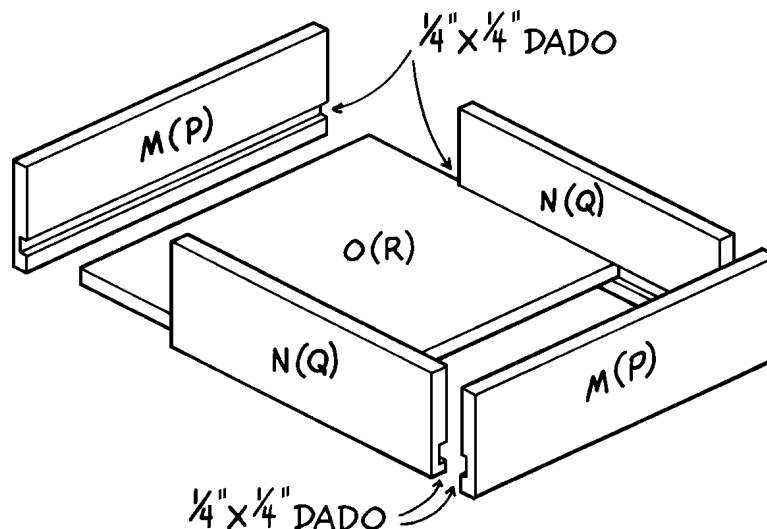

Figure 9
1. The two outermost drawers in the buffet are identical in size; the center drawer is smaller. All three are constructed as shown in the assembly diagram in *Figure 9*. Start by cutting the following parts for the two larger drawers from 1 x 4 pine: four drawer front/back pieces (M), each 15-1/4" long, and four drawer sides (N), each 8" long.
3. Cut two 8-1/4" x 14" drawer bottoms (O) from 1/4"-thick plywood. Assemble one drawer as shown in *Figure 9*. Note that the drawer front/back pieces (M) overlap the ends of the drawer sides (N). Use glue and 3d finishing nails at each end of the overlapping boards. The long drawer front (S) will be added later.
4. Repeat the drawer assembly using the remaining two drawer front/back pieces (M), two drawer sides (N), and drawer bottom (O).
5. Cut the following pieces for the center drawer: two 8-3/4"-long small drawer front/back pieces (P) and two 8"-long small drawer side pieces (Q).
6. Cut one 7-1/2" x 8-1/4" small drawer bottom (R) from 1/4"-thick plywood. Assemble the drawer as shown in *Figure 9*. Note that the small drawer front/back pieces (P) overlap the ends of the small drawer sides (Q). Again, use glue and 3d finishing nails on each end of the overlapping boards.